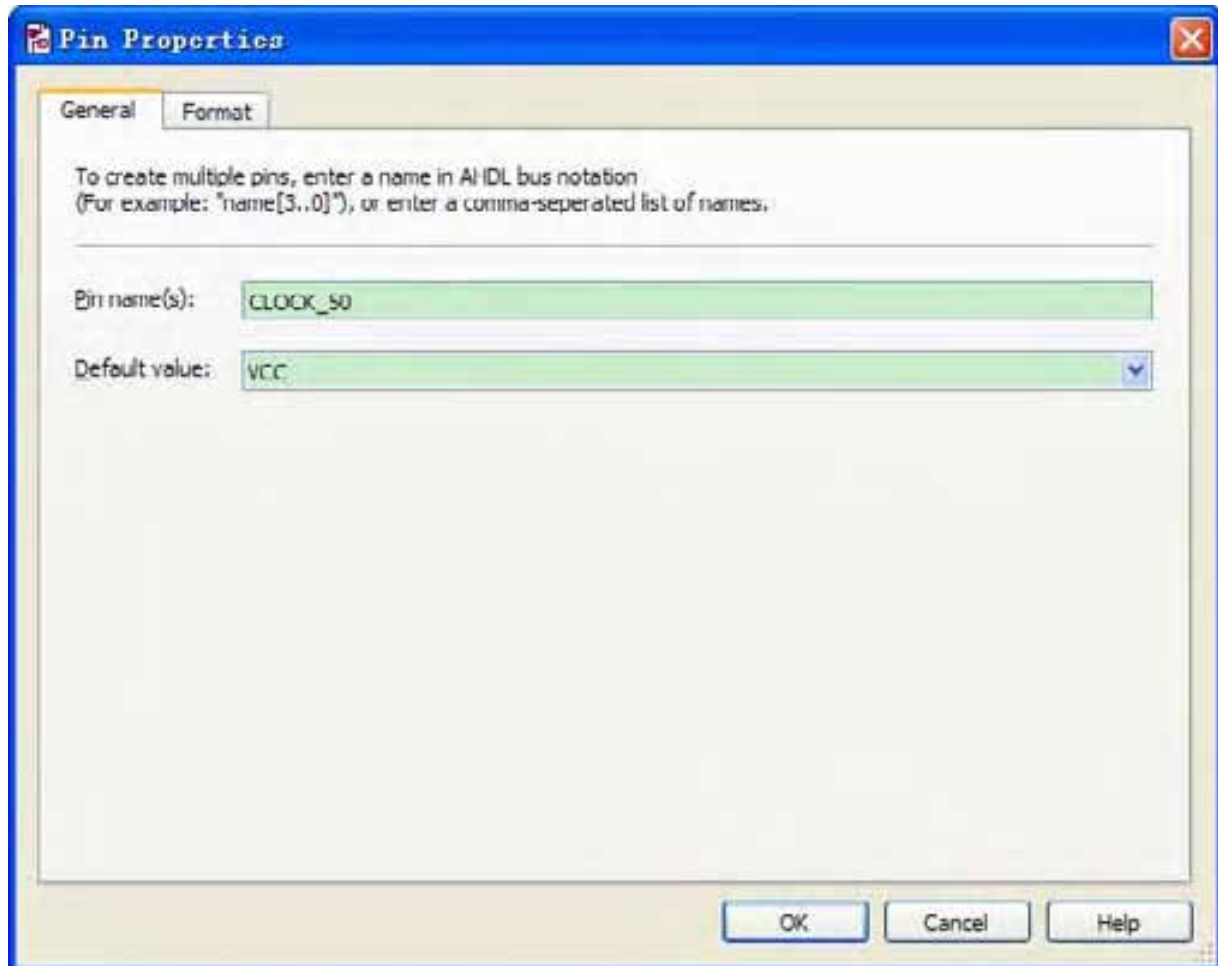

Figure 6-30 Change the input port name
6. Change the pin name by double-clicking pin_name and typing CLOCK_50 (see **Figure 6-30**). This name correlates to the oscillator clock that is connected to the FPGA.